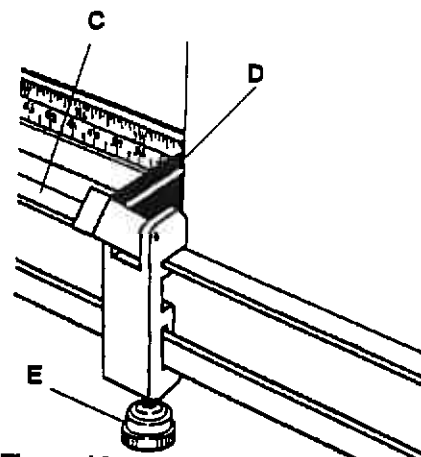

Figure 14
2. Set the board to be cut on the **LEFT SQUARING EDGE BAR (C)** and slide it to the right so the left edge of the board aligns with the desired cutting dimension. **Figure 14**. The **MEASURING STOP** is useful when more than one piece is to be cut to the same size. Set the **BLACK STOP LEVER** to the desired dimension (**D**) and lock the **MEASURING STOP** in place with the **LOCKING KNOB (E)**. Slide the board to the left against the **BLACK STOP LEVER**, and apply the **CLAMP** to hold the mount board in place and prevent buckling.